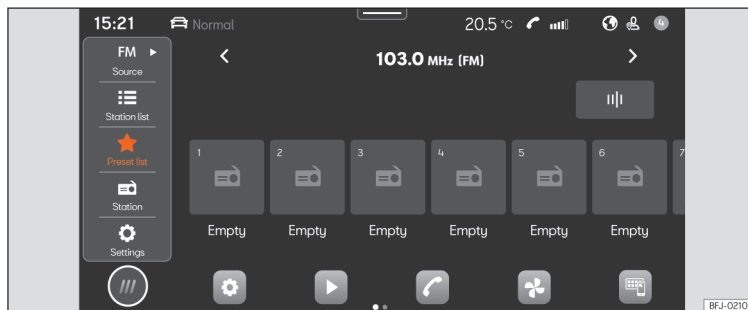

Fig. 126 Schematic representation: Radio view
- Press **HOME** > >>> **Fig. 126**.